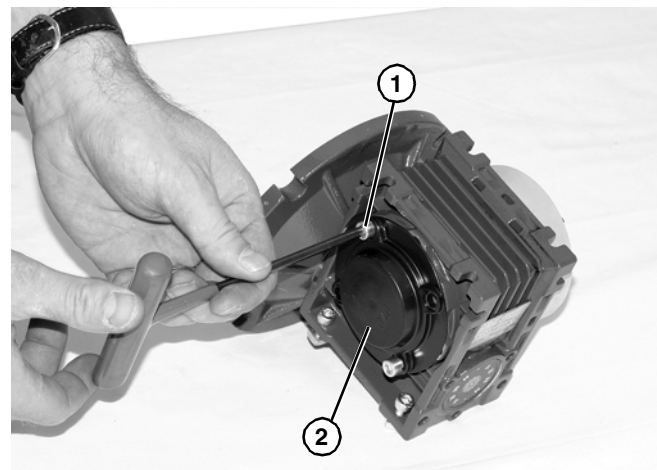

Figure 30
8. Remove two (2) screws (**Figure 30, item 1**) and detach output shaft cover (**Figure 30, item 2**).